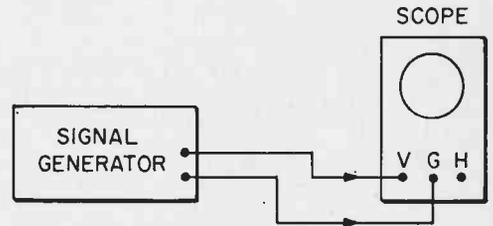

Fig. 15. Signal generator connect to oscilloscope's horizontal input terminals.
Higher frequency signal waveforms are observed by connecting the output of a signal generator to the scope's vertical input as shown in Fig. 15. If the signal generator is a sine wave audio frequency (AF) oscillator, we can look at its output waveform and note what readjustment of the scope is necessary as we change the frequency.
Looking at RF. If the signal generator is an RF oscillator and is connected to the scope as shown in Fig. 15, we can observe RF waveforms when the signal generator is set to produce an unmodulated signal. The highest frequency to which the signal generator can
RF and IF circuits, the waveform will look something like that shown in Fig. 15. When checking audio circuits, the waveforms of the music or speech will be seen.